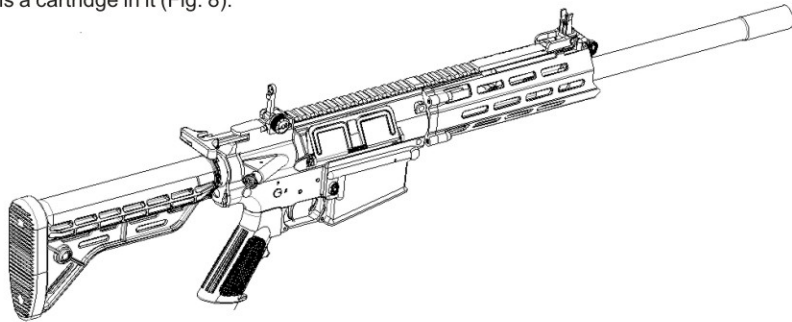

Fig. 8 Pulling the bolt rearward to check the chamber for cartridge
4.1.1.2 After removing the magazine, pull the bolt rearward and check the chamber to see if there is a cartridge in it (Fig. 8).